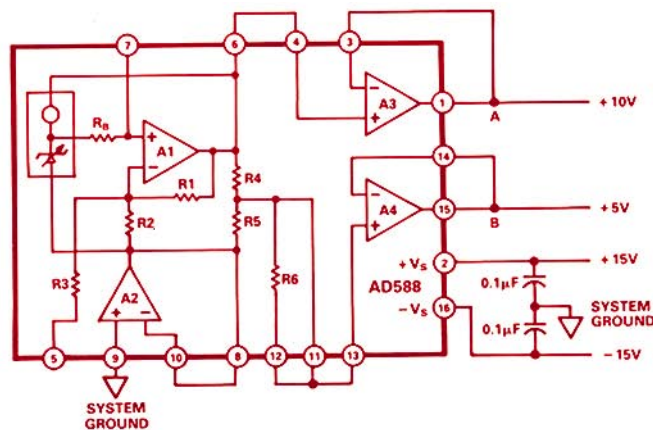

Figure 2. Connection for +10-volt (and +5-V) output.
How the device works can be seen in Figure 2, where it is connected for +10-volt output; an auxiliary +5-volt output is also made available. Note first that the Zener diode is in series with a current source, which is driven from the output of A1; the lower end of the Zener is driven by the output of A2. Since A2 is a high-gain feedback amplifier, jumpered (8-10) as a follower, the low end of the Zener is driven to be equal to the input voltage to A2 (9), which is connected to the system ground point.